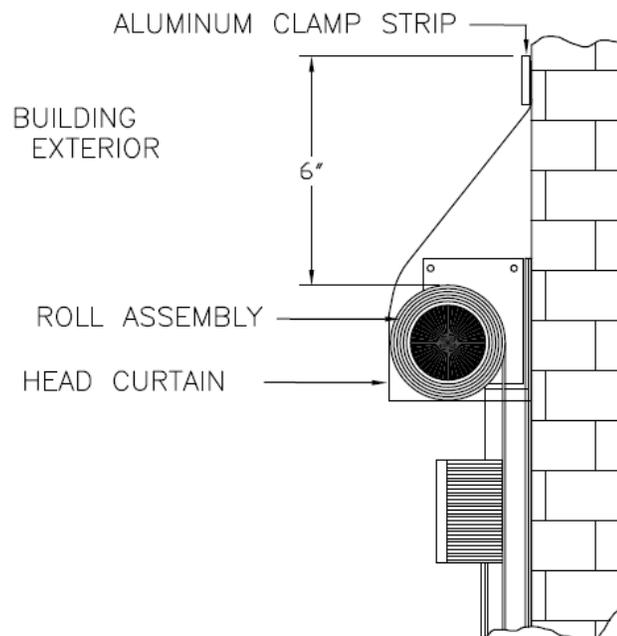

FIGURE 4
10. Mount the header curtain to the outside wall with the aluminum clamping strip provided. Make sure that the head curtain hangs out over the roll assembly on the outside of the building. Mount the clamp strip so that its top is located 6" above the top of the roll screen assembly. The Gateway Logo should face the building exterior. (See Fig. 4).